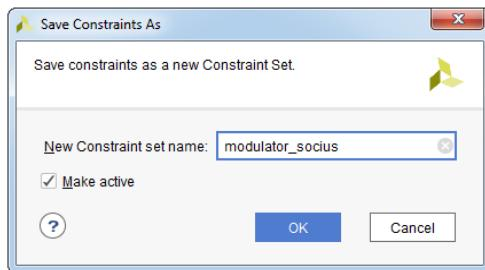

Figure 10.6: Save Constraints As dialog box
10. In the **Save Constraints As** dialog box, type the name of the constraint set in the **New Constraints set name** field. In our case, the name will be **modulator_socius**, see Figure 10.6.